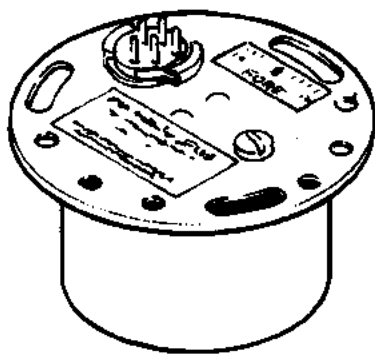

Figure 3-20. AltiMatic III C, Flux Detector
**3-28. INSTALLATION OF FLUX DETECTOR. (PA-23-250 Six Place) E & F Models. (Refer to Figure 3-20.)**